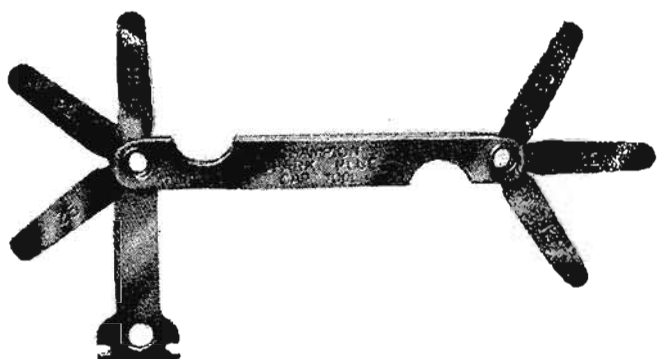

Fig. 44 The Champion Spark Plug Gap Tool.
- (h) Next, we are ready for resetting the electrodes (Fig. 44). Remember that electrode corrosion and oxides at gap area vitally affect spark efficiency. The cleaner can remove the oxides and deposits from the insulator, but because of gap location, the cleaner stream cannot always reach this area with full effect, also, the tenacious adhesion of corrosion, etc., would require too much subjection to clean blast for removal. Therefore, when plugs are worthy of further use, it is sometimes good practice to dress the gap area, on both centre and side electrodes, with a small file before resetting to correct gap.